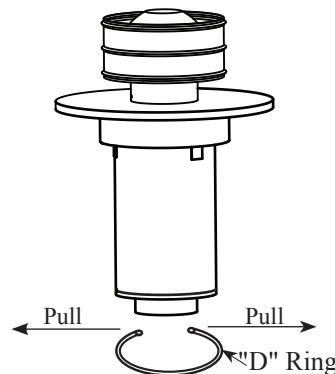
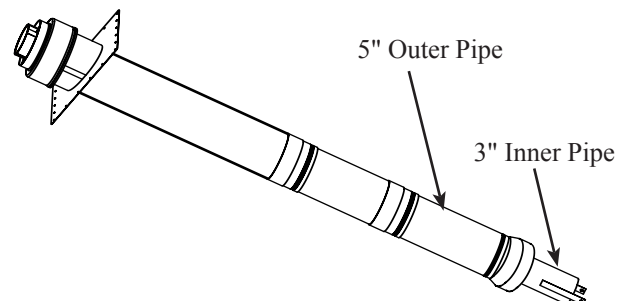

Figure 3 -Upper Roof Jack Module
Figure 4 - Lower Roof Jack Module
- 5 Selecting the roof jack module.** The Co-axial vent roof jack is divided into two modules. The lower module (See Figure. 4) should be installed on the water heater at the factory location. The upper roof jack module (See Figure. 3) should remain in the co-axial carton box and shipped inside the manufactured home for assembly and setup at the permanent location of the home.
A. Disassemble the upper roof jack module by expanding the "D" ring as shown in Figure 3. **DO NOT** remove the silicone band attached to the 3" pipe; it will be used for final assembly at the permanent location of the home.
C. Place the upper roof jack module back into the carton. Seal the carton with the bright orange Carton Warning Label (F) supplied. Make sure the carton box ships with the manufactured home for final assembly of the vent system at the permanent location of the home.
- 6 Lower Roof Jack Module Installation.** Install the lower roof jack module into the roof. The 3" inner pipe is supplied with two brackets attached at the lower end of the pipe to attach it to the top pan.(See Figure 4)